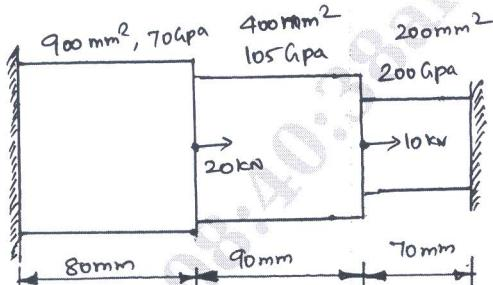

Fig.Q.4(a)
- 4 a. Find nodal displacements, stress in the thickest section and left support reaction for structure shown in Fig.Q.4(a). (08 Marks)